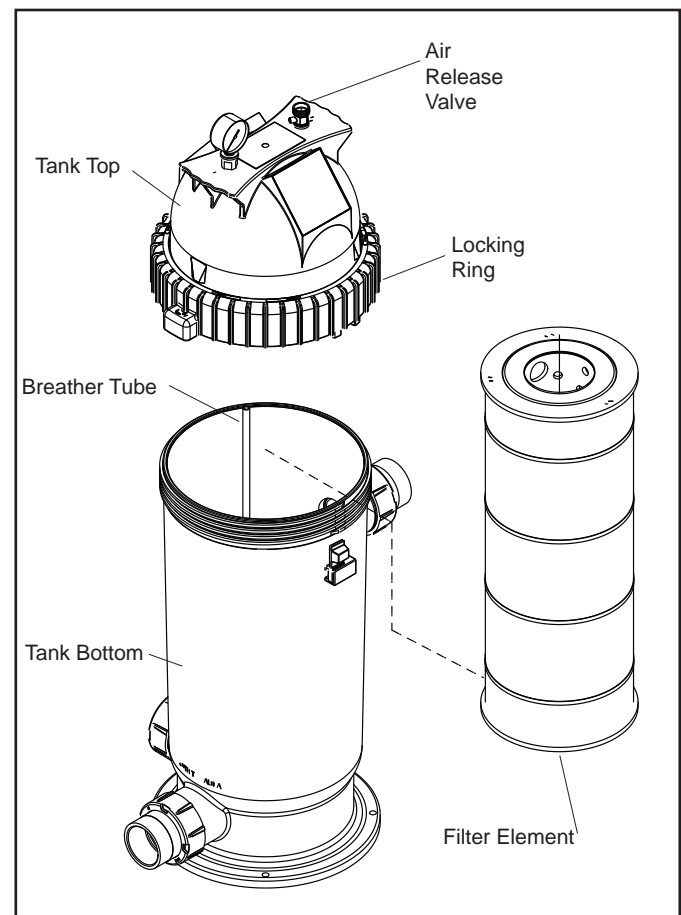

Figure 8. Filter Element Removal
2. Open air release valve on top of the filter tank to release all pressure from inside the tank and system (see Fig. 8). Close any filter isolation valves on the system to prevent flooding.